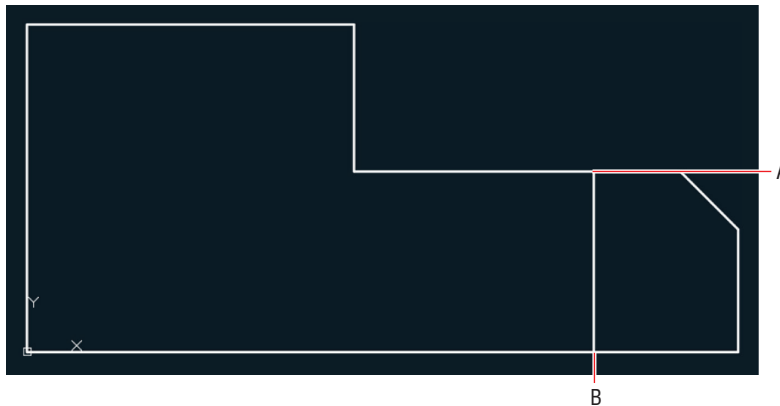

FIGURE 3.9 Drawing a line without Object Snap
1. Using Polar Tracking, but without invoking Snap or Object Snap, draw a line using points A to B in Figure 3.9 as a guide. Click each point as accurately as you can because I want you to see that you can't make it perfect without using Object Snap.